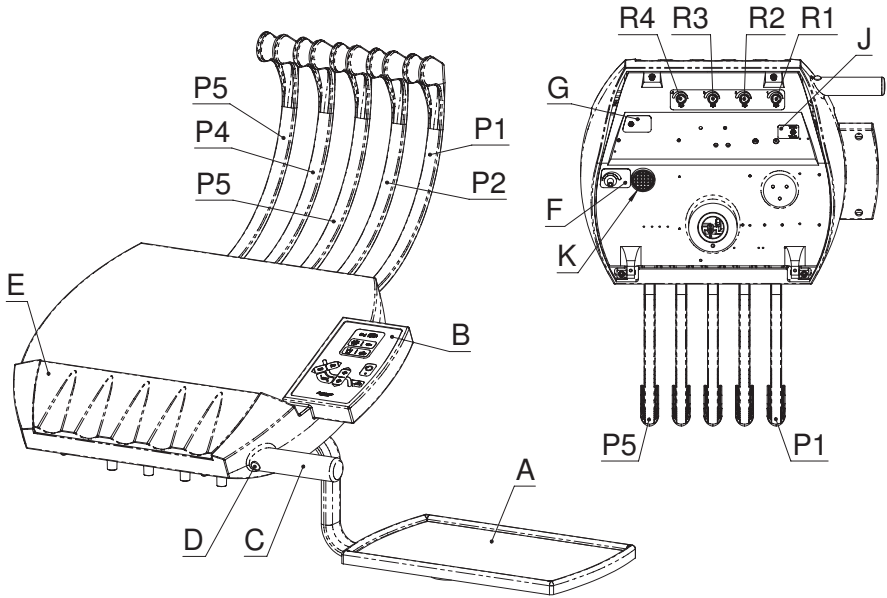

Fig. 6
The instrument tray (Fig. 6), ergonomically designed to facilitate the work of the user, is also fitted with an auxiliary instrument tray (A), a slight inclination of the main keypad (B) to provide easy viewing, and a comfortable positioning handle (C). Use the button located on the front (D) to release the pneumatic brake and to adjust the height position.